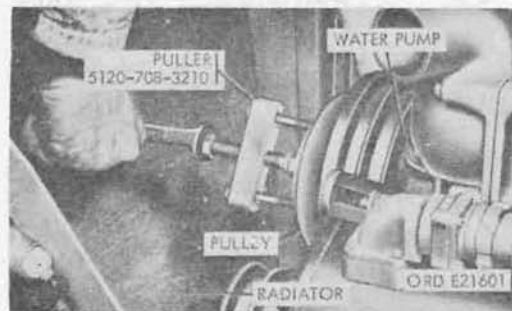

Figure 139. Removing fan and water pump with puller
- (2) **Removal.** Loosen the two safety nuts securing the generator to the mounting bracket. Loosen the screw holding the generator to the adjusting arm, and move the generator toward the engine as far as it will go. Remove the compressor drive belt (par. 218). Remove the fan and water pump drive belts from the generator, water pump and crankshaft pulleys and lift the belts over the fan.
b. **Installation.** Work the fan and water pump drive belts over the fan, and crankshaft, water pump, and generator pulleys. Install the compressor drive belt. Adjust the belts and tighten the generator ((1) above).
a. **Removal.** Remove the fan, fan-to-pulley adapter, and the drive belts (par. 88). Disconnect the thermostat bypass line and air compressor water inlet line, where present, from the top of the water pump housing, and pull clear. Remove the nut and washer securing the fan and water pump pulley on the water pump shaft, and remove the pulley with the water pump pulley and fan hub puller 5120-708-3210 (fig. 139). Remove the key from the shaft and pull off the two bearing retainers. Disconnect the radiator outlet hose at the